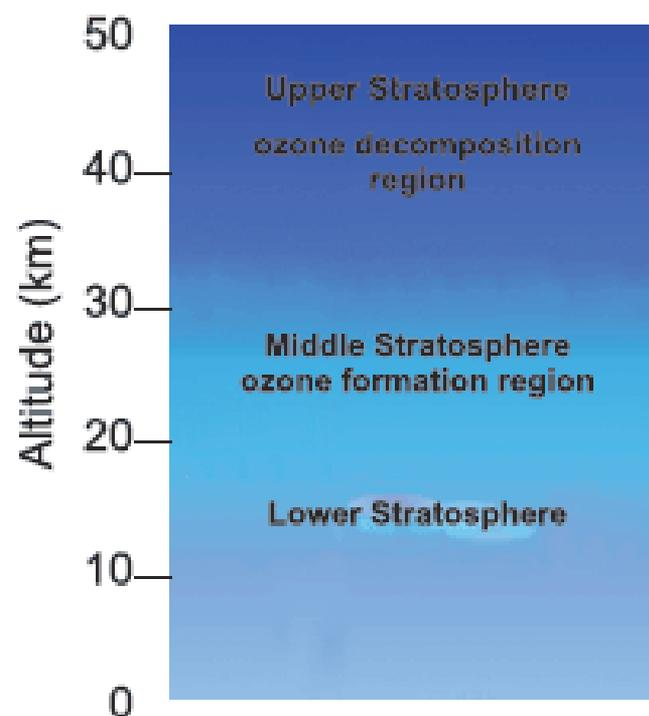

Fig. 14.2 Troposphere and stratosphere regions
This region is next to troposphere and extends upto 50 kilometres. In this region, temperature rises gradually upto 2°C. The presence of ozone (due to absorption of radiation) in this region is responsible for the rise of temperature in stratosphere. Within this region, temperature increases as altitude increases, such as lower layer temperature is about -58°C and upper layer is about 2°C. Thus, stratosphere is layered in temperature as shown in figure 14.2. Since ozone in the upper layer absorbs high energy ultraviolet radiations from the Sun, it breaks down into monoatomic (O) and diatomic oxygen (O₂).